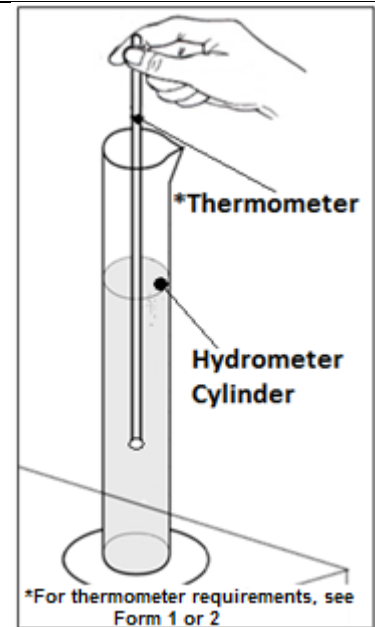

Figure 11
- Place Hydrometer Cylinder on a level table and using a Thermometer measure the temperature of the solution in the Hydrometer Cylinder immediately (Figure 11).
2. Connect Transfer Hose to the storage tank and OPEN the Main Transfer Ball Valve at the side of the Filter Housing. Press the Dissolution START button to transfer concentrate into the storage tank (Figure 11).